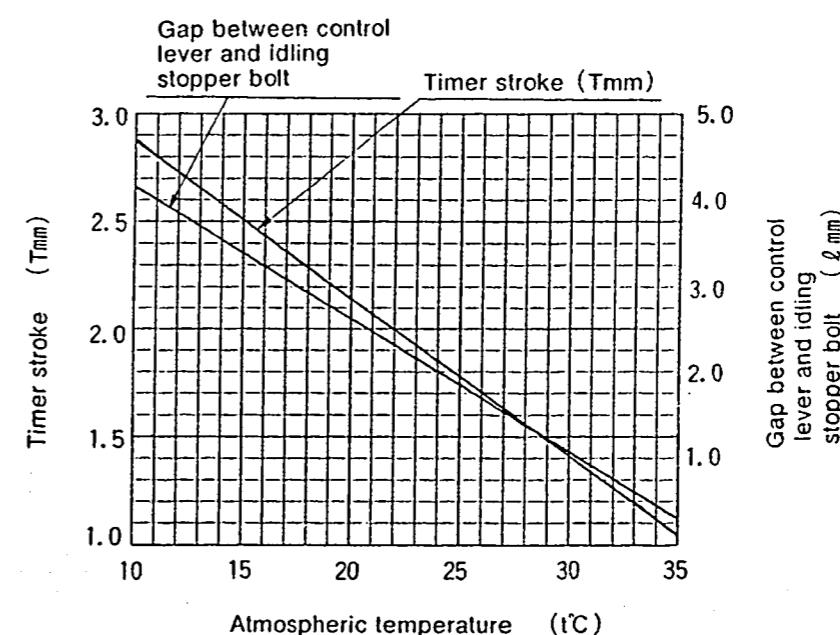

Fig. 2
1. Calculate the block gauge dimension  $\ell \pm 0.05\text{mm}$  from Fig. 2 according to the atmospheric temperature at the time of adjustment.
1. Calculate the timer stroke from Fig. 2 according to the atmospheric temperature at the time of adjustment